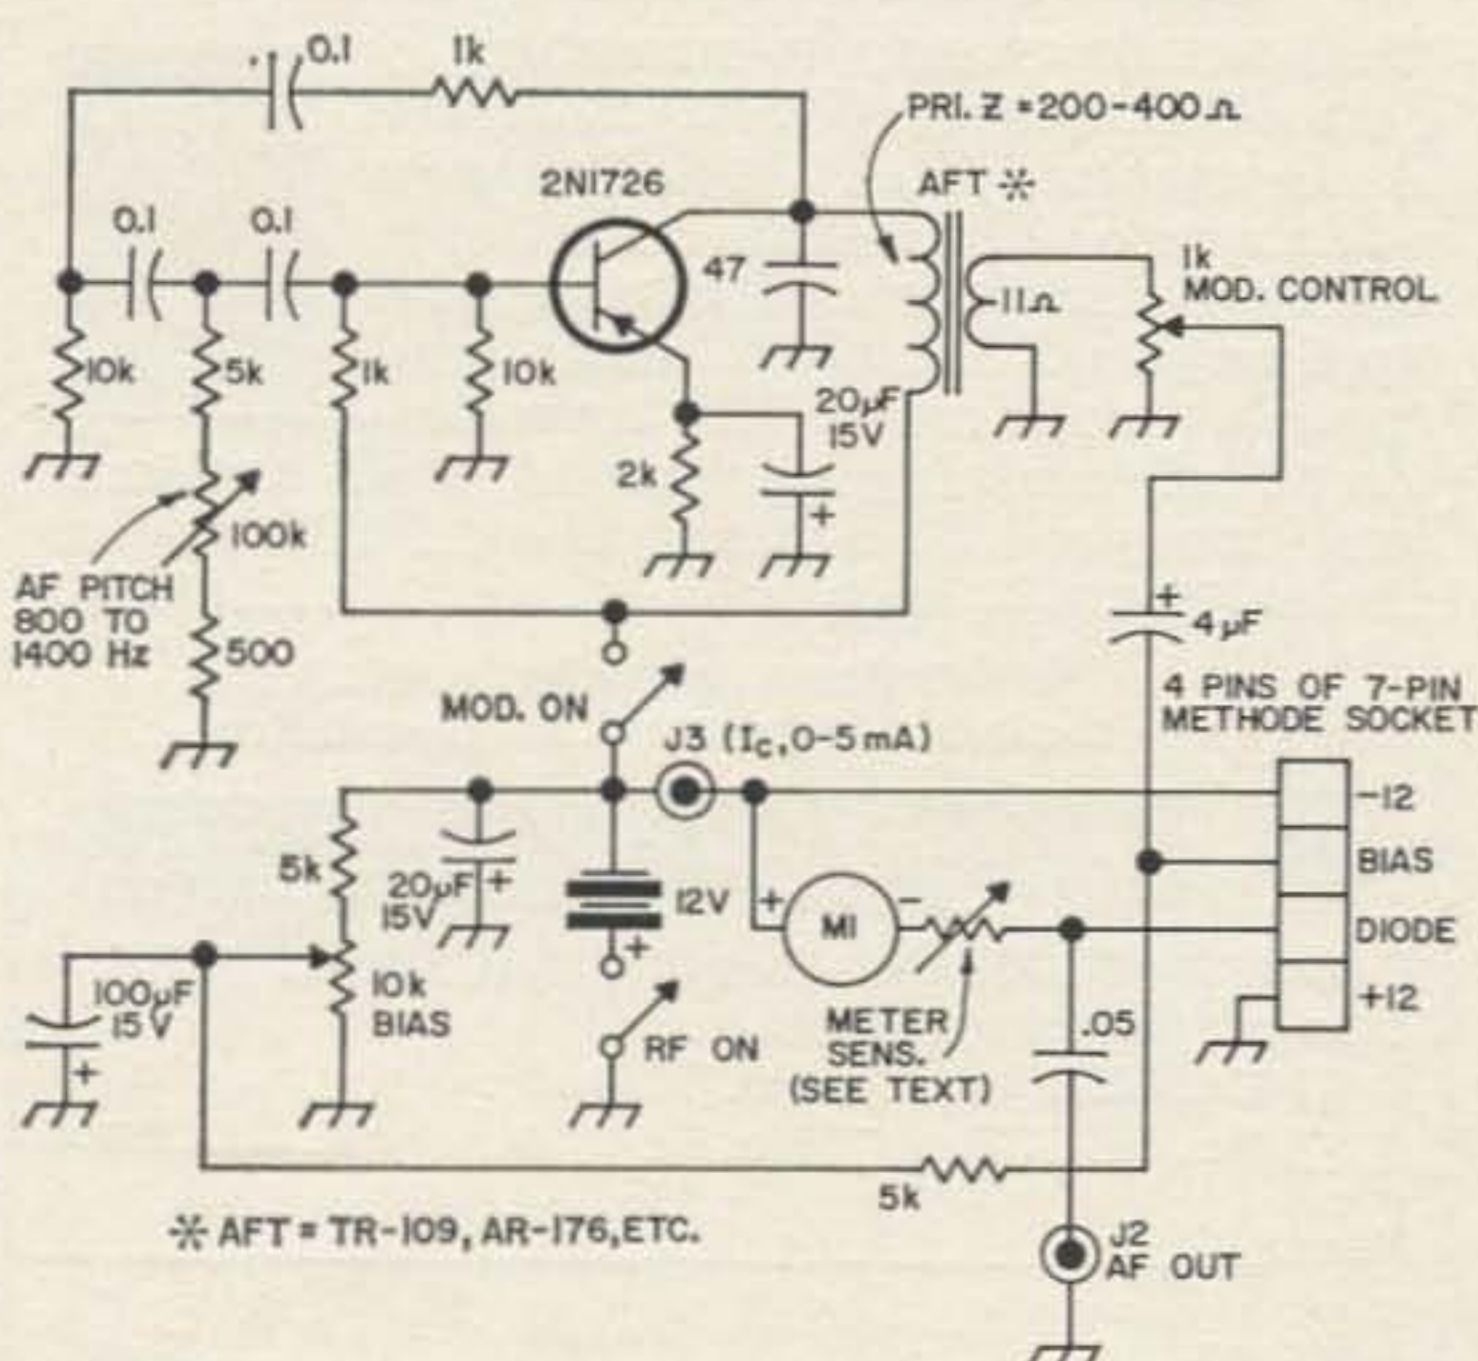

Fig. 7. Power control, modulation and audio circuitry. This circuit is used with all the rf heads.
Fig. 7 shows the circuitry for bias control, modulation and audio. Don't let it scare you. It's just the same old deal of doing what has to be done for control purposes, and from then on just turning the knobs to get what you want.
circuit didn't work at first. After considerable experimentation I can recommend the circuit shown in Fig. 7. It works! In addition, the modulation may be adjusted to exactly 1000 MHz. This is very useful as many microwave test amplifiers have built-in narrow band af audio filters centered on 1 KHz. There is also a modulation gain control. This helps if a nice tone is desired.
Plug an audio amplifier into J2, Fig. 7, advance the bias control, and tune. I have heard several UHF TV stations from Massachusetts up here in Peterborough, so it is really sensitive. One nice feature of this circuit is that the regeneration turns into oscillation very smoothly. Stability is good too. You can heterodyne a crystal controlled two meter signal and copy CW with it. Not bad for a 144 MHz blooper!
Basically, there are two types of pictures that an oscilloscope can show of your transmitted signal and two types with a received signal. The first, and easiest to obtain, is the *envelope* pattern, so called because it shows the limits of rf voltage with all changes in amplitude. The second, and harder to get pattern, is the trapezoid (AM) or *bow-tie* (SSB), which shows the relationship between modulation voltage and carrier voltage. Fig. 7 shows examples of these patterns (see 73 Magazine for July, 1963, page 80 for more typical patterns). When the oscilloscope is connected to a receiver, it may be used to obtain a display that fol-